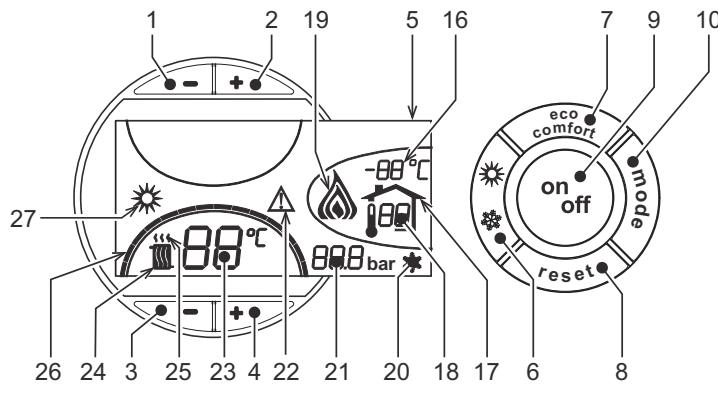
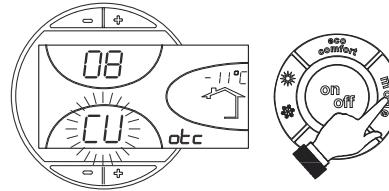
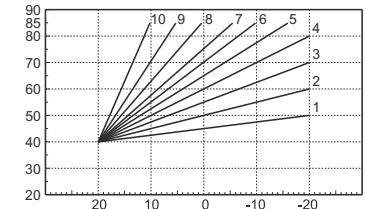

fig. 1 - Control panel
fig. 9 - Compensation curve
fig. 12 - Example of compensation parallel curve offset
Press the **on/off** button (detail 9 - fig. 1) for 1 second.
To relight the boiler, press the **on/off** button (detail 9 - fig. 1) again for 1 second.
- Press the ON/OFF button (9 - fig. 1)
Press the **summer/winter** button (detail 6 - fig. 1) for 1 second.
The display activates the Summer symbol (detail 27 - fig. 1): the boiler will only deliver domestic hot water. The antifreeze system remains activated.
To deactivate the Summer mode, press the **summer/winter** button (part. 6 - fig. 1) again for 1 second.
Use the **heating buttons** (details 3 and 4 - fig. 1) to adjust the temperature from a min. of 30°C to a max. of 80°C.
Use the DHW buttons **-/+** (details 1 and 2 - fig. 1) to adjust the temperature from a min. of 10°C to a max. of 65°C.
When the optional external probe is installed the control panel display (detail 5 - fig. 1) shows the actual outside temperature read by the probe. The boiler control system operates with "Sliding Temperature". In this mode, the temperature of the heating system is adjusted according the outside weather conditions, in order to ensure high comfort and energy saving throughout the year. In particular, as the outside temperature increases, the system delivery temperature is decreased according to a specific "compensation curve".
With Sliding Temperature adjustment, the temperature set with the heating buttons **-/+** (details 3 and 4 - fig. 1) becomes the maximum system delivery temperature. It is advisable to set a maximum value to allow system adjustment throughout its useful operating range.
Press the **mode** button (detail 10 - fig. 1) once to display the actual compensation curve (fig. 9), which can be modified with the **DHW buttons** (details 1 and 2 - fig. 1).
Press the **heating buttons** (details 3 and 4 - fig. 1) to access parallel curve offset (fig. 12), modifiable with the **DHW buttons** (details 1 and 2 - fig. 1).
Press the **mode** button (detail 10 - fig. 1) again to exit parallel curve adjustment mode.
If the Remote Timer Control (optional) is connected to the boiler, the above adjustments are managed according to that given in table 1. Also, the control panel display (detail 5 - fig. 1) shows the actual room temperature detected by the Remote Timer Control.